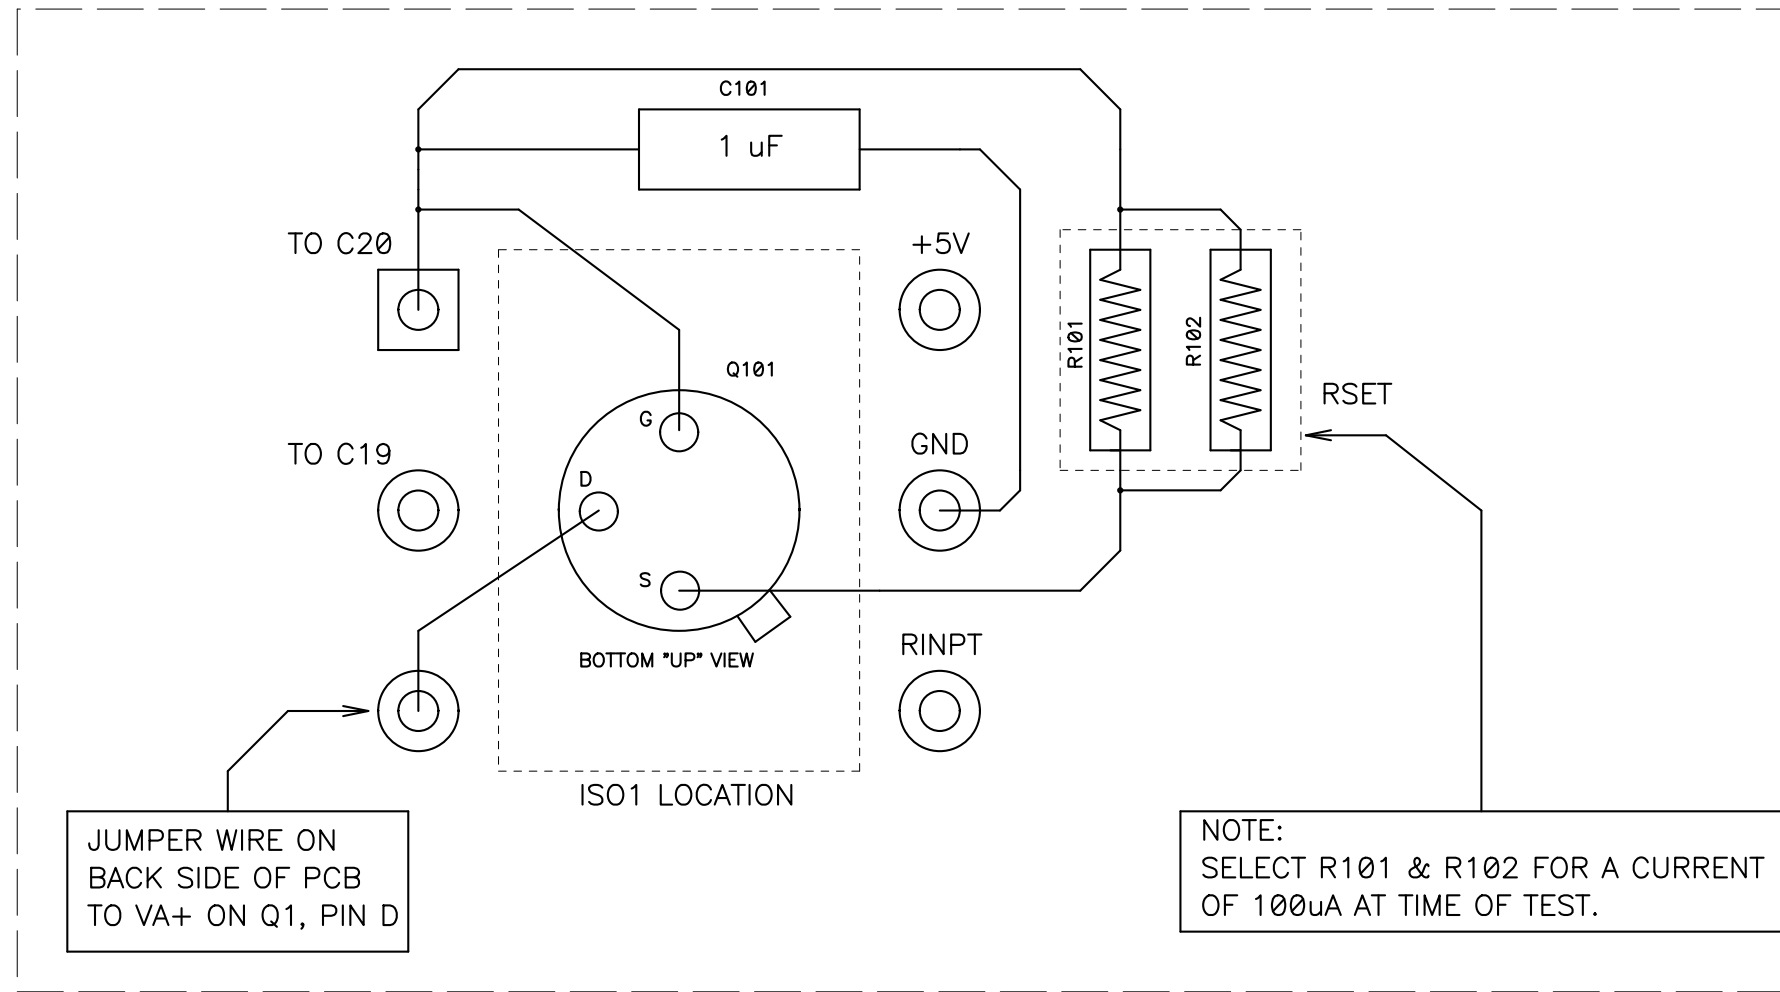

FIG 2
2. Add a second current source for focal plane temperature monitoring. Calibrate both sources to 100uA . NOTE: Install Q-101 with legs facing in the upward position (SEE FIG 2)